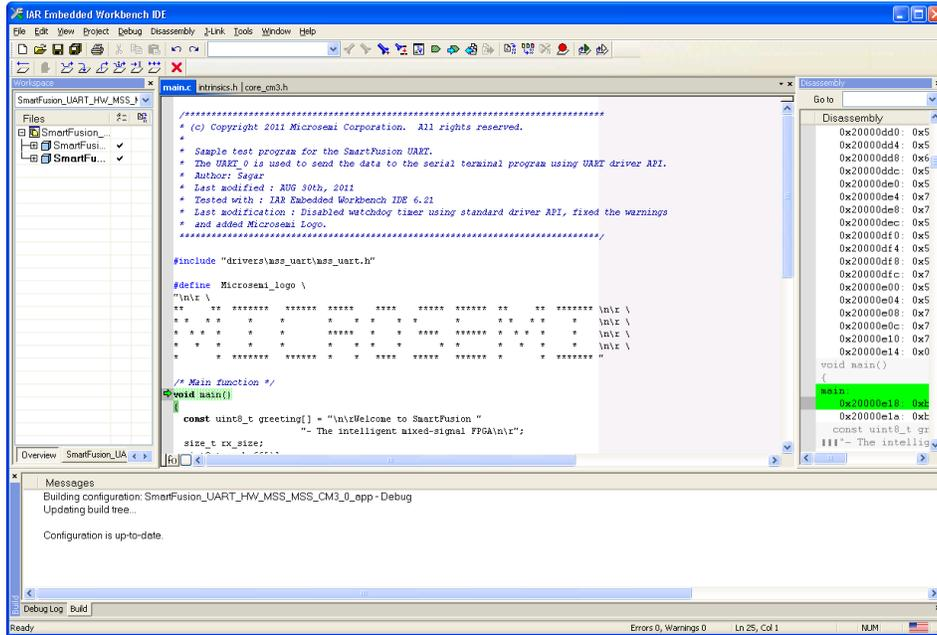

Figure 38 · IAR Workbench After Downloading the Project
- The Workbench is displayed, as shown in Figure 38 . .